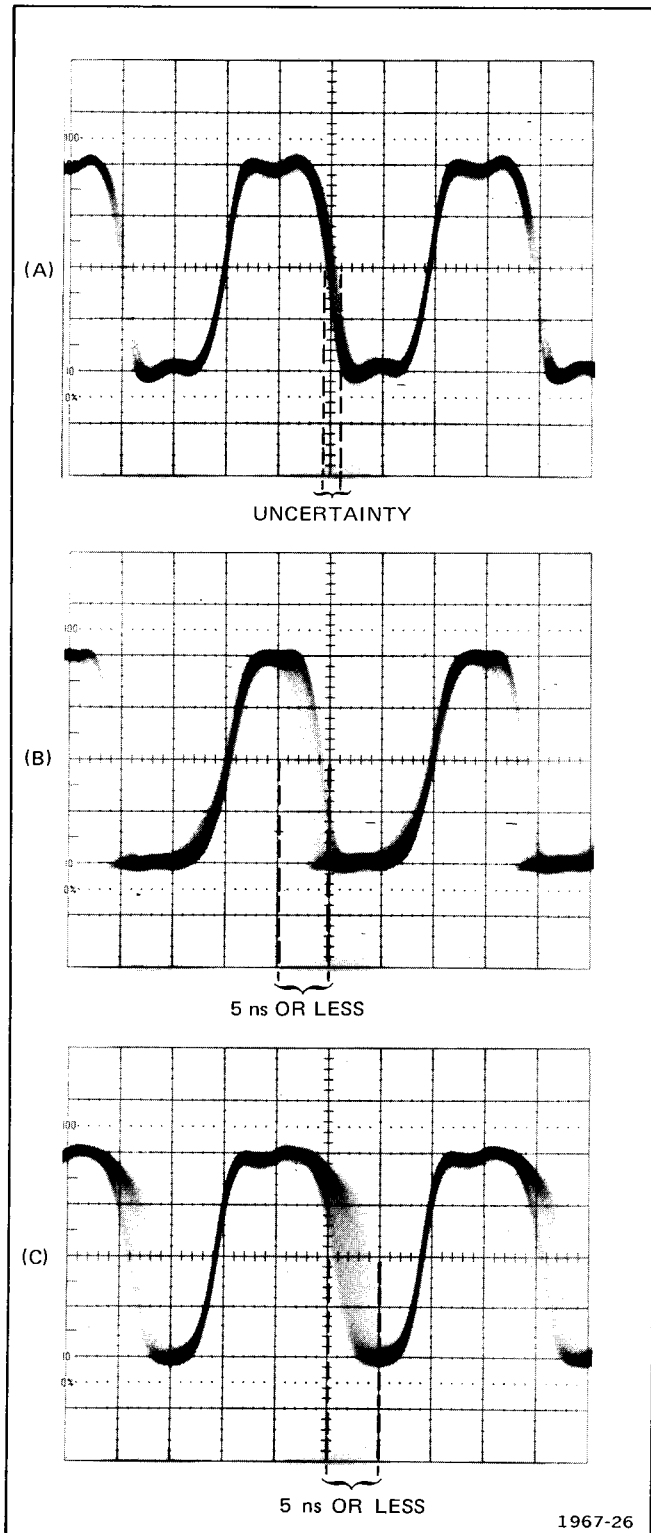

Fig. 5-1. Typical threshold level waveform at J838.
- k. Position display as shown in Figure 5-1(A). Set test oscilloscope trigger level for stable display.
- ✓ m. CHECK—Display for 5 nanoseconds or less of threshold level uncertainty as shown in Figure 5-1(B).
- ✓ o. CHECK—Display for 5 nanoseconds or less of threshold level uncertainty as shown in Figure 5-1(C).